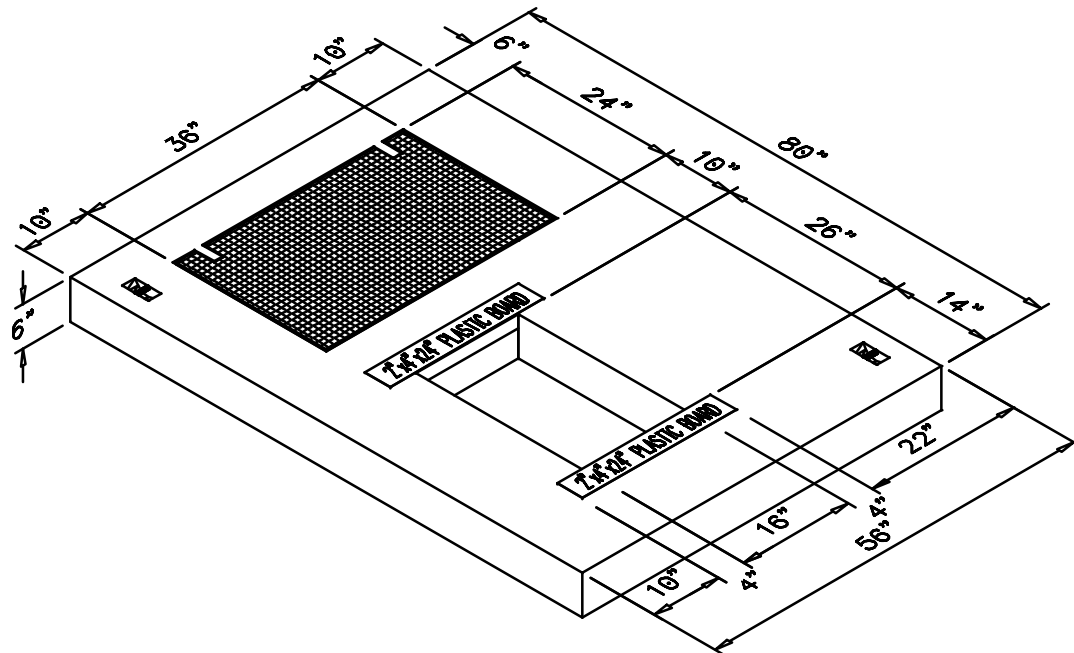
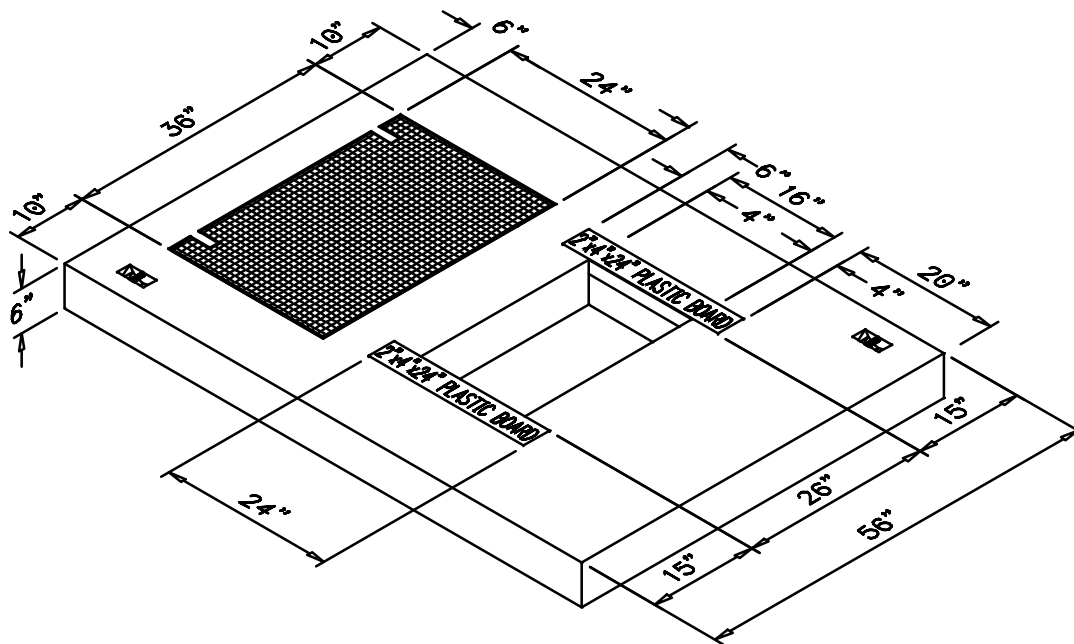
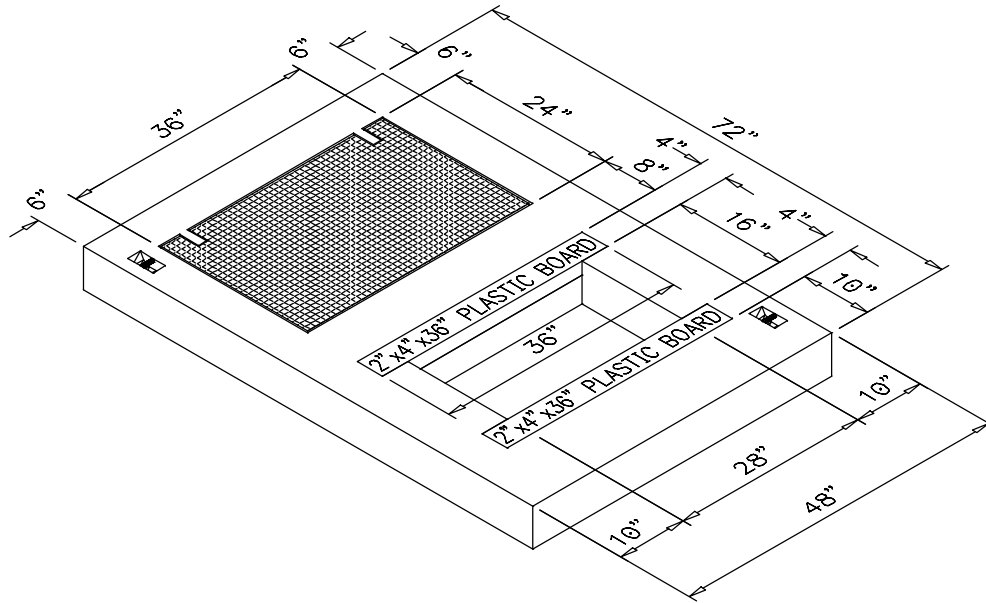

Figure 3—4' × 6' Single-Phase Transformer Lid, SI# 7992977
Figure 4—4' × 6' Single-Phase Transformer Lid, SI# 7999352
Figure 5—4' × 6' Single-Phase Sectionalizer Lid, SI# 7992975
Unless otherwise approved by PacifiCorp engineering, all dimensions and placement of hardware shall conform to those shown in Figure 3, Figure 4, and Figure 5.
- two 2" × 4" × 24" composite boards, cast flush with the top of the padvault lid, at the locations specified in Figure 3 and Figure 4.
- two 2" × 4" × 36" composite boards, cast flush with the top of the padvault lid, at the locations specified in Figure 5.